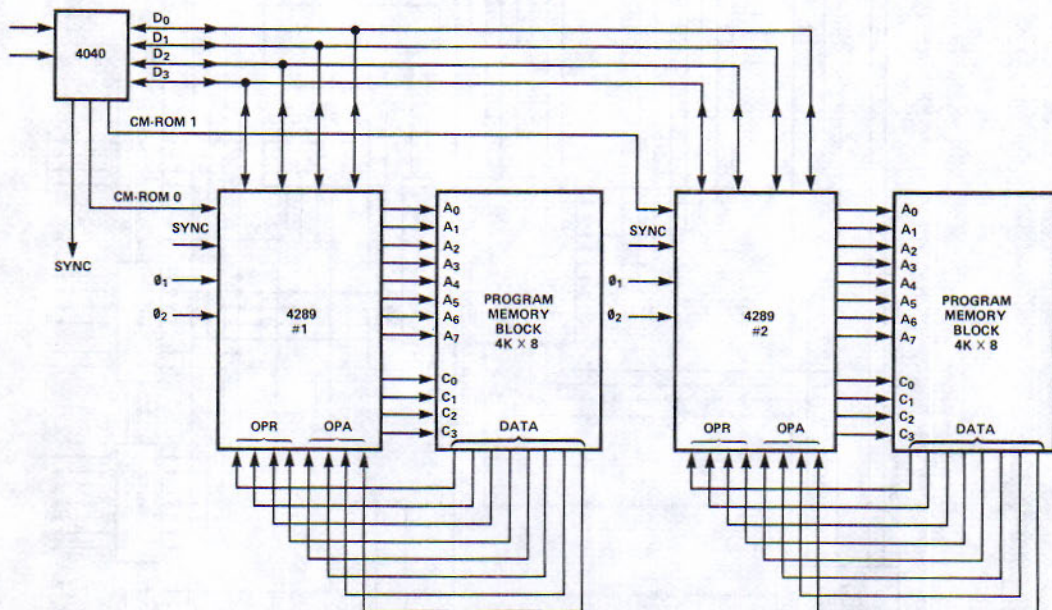

Figure 3. Two Memory Bank System.
- Two Memory Bank System (Figure 3). Two 4289s are used in this 4040 system giving addressability to a full 8K bytes of PROM memory. In this case each 4289 is controlled from a separate CM-ROM control signal. The CM-ROM₀ and CM-ROM₁ lines are generated by the 4040. This system cannot be implemented with the 4004.